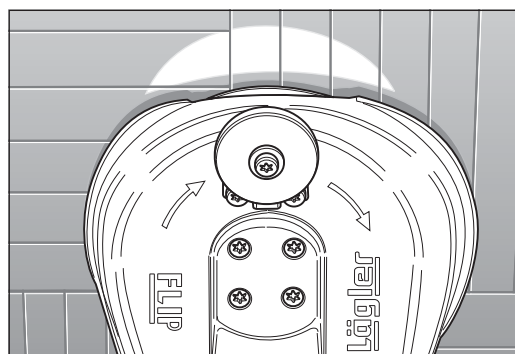

Fig. 59 Proper adjustment of the guide rollers:
- 8 If the machine sands **centrically** (fig. 59), the guide rollers are properly adjusted.